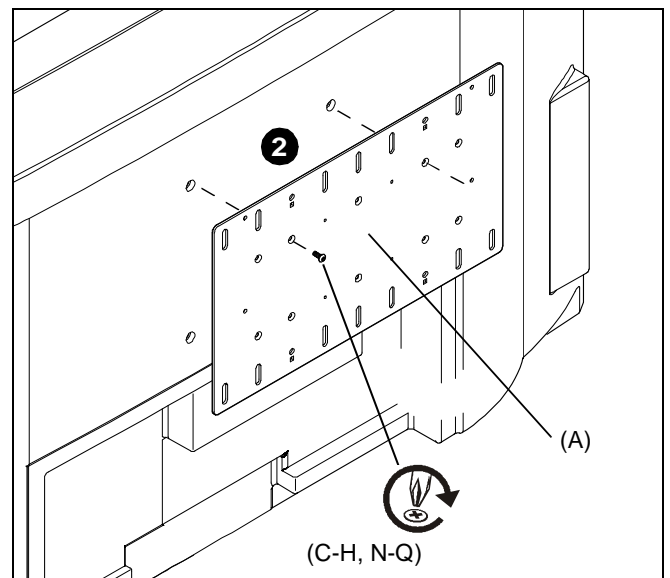

Figure 5
2. Attach Interface Bracket (A) to display using appropriate screws (C-H, N-Q). (See Figure 5)